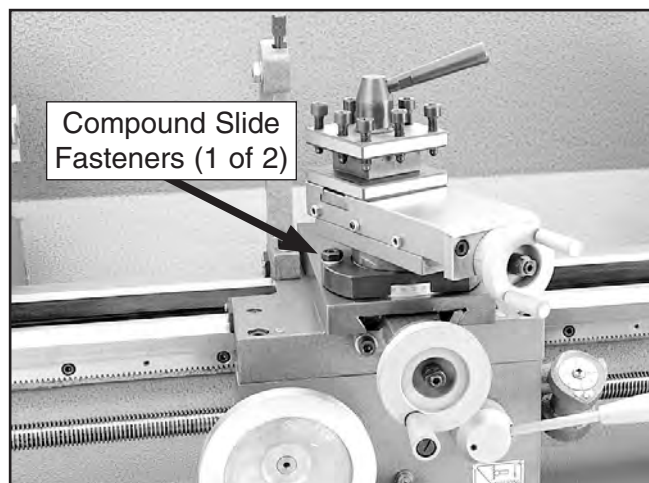

Figure 84. Compound slide fasteners.
1. Loosen the hex nuts and remove the set screws and flat washers that secure the compound slide to the cross slide (see **Figures 84–85**).